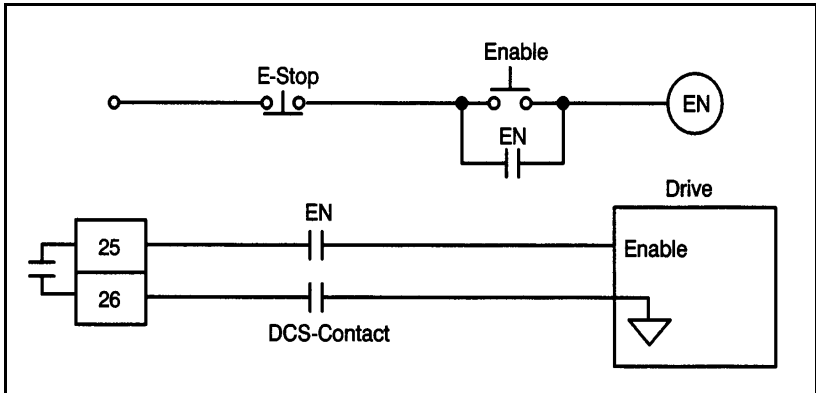

Figure 3.7 – Typical E-stop Circuit with Watchdog Output
Each axis contains a watchdog output which can be used by the module to disable the drive if the module falls. The watchdog output is a normally open relay contact. See figure 3-7.
- Step 11. Connect the watchdog outputs on the terminal strip into the drive enable circuit. This signal is used to disable the servo if a problem develops in the module. It must be installed in combination with a hardwired E-stop circuit as well as a pair of contacts that are controlled from a digital output from DCS or AutoMax software. Typical field connections are shown in figure 3.7.